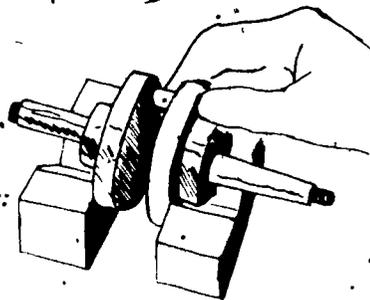

FIGURE 3
1. Install crankshaft assembly in a V-block or other suitable centering device (Figure 3)